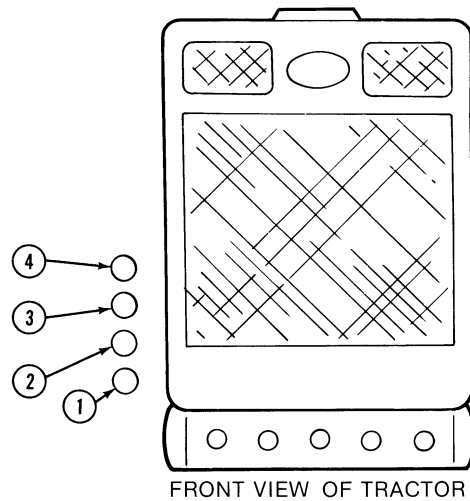

Figure 22
3. Connect the hose from the upper port of the lift cylinder to the tractor quick coupler, (1), Figure 22. Connect the hose from the lower port of the lift cylinder to the tractor quick coupler, (2), Figure 22.